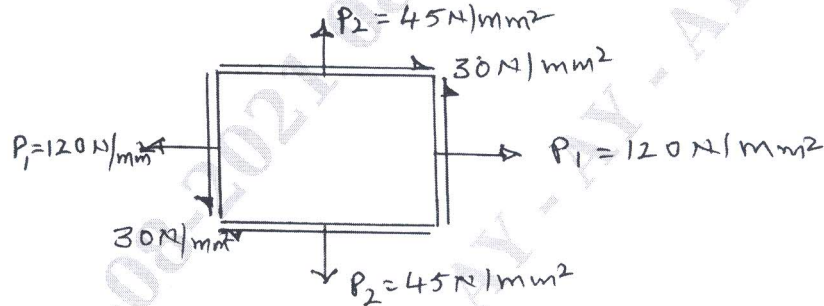

Fig.Q.3(c)
- c. An element in plane stress is subjected to stresses  $P_1 = 120\text{N/mm}^2$  and  $P_2 = 45\text{N/mm}^2$  and shear stress  $30\text{N/mm}^2$  as shown in Fig.Q.3(c). Determine the normal stress, shear stress, major principal stress, minor principal stress and maximum shear stress acting on an element rotated through an angle  $\theta = 45^\circ$ . (10 Marks)